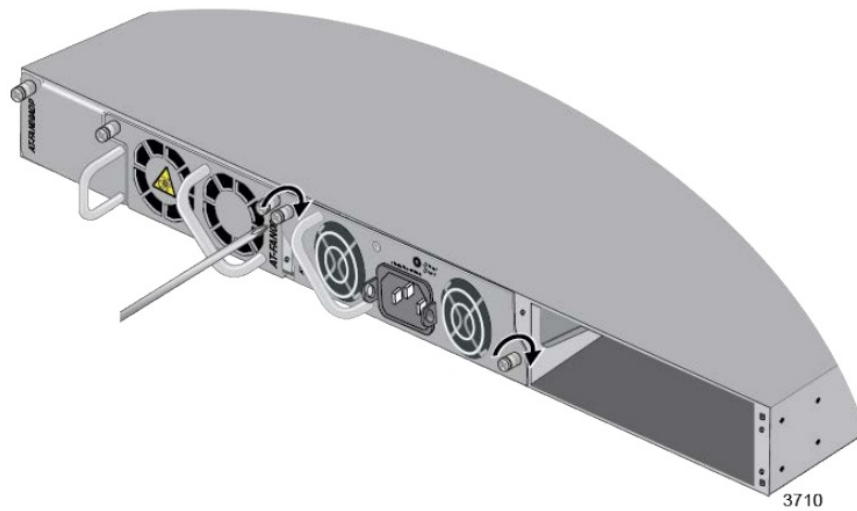

Figure 24. Tightening the Captive Screws on the Power Supply
6. Secure the power supply to the switch by tightening the two captive screws with a cross-head screwdriver. Refer to Figure 24.